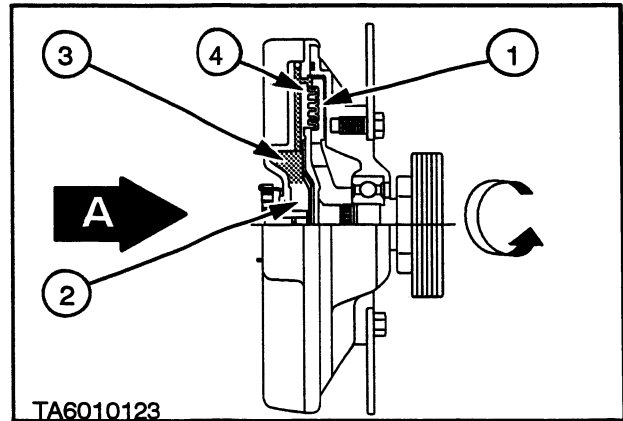

Figure 1-1-5
Within the drive area are two sets of interlocking annular fins, one set on the drive member (1), Figure 1-1-5, and the other on the free-wheeling hub body (4), Figure 1-1-5, to which the fan blade assembly (2), Figure 1-1-6, is attached. Viscous liquid passes between the interlocking blades and the resulting drag transmits torque to the fan. The fluid is then recirculated to the reservoir by a pump plate (6), Figure 1-1-6, incorporated in the drive member (1), Figure 1-1-6.